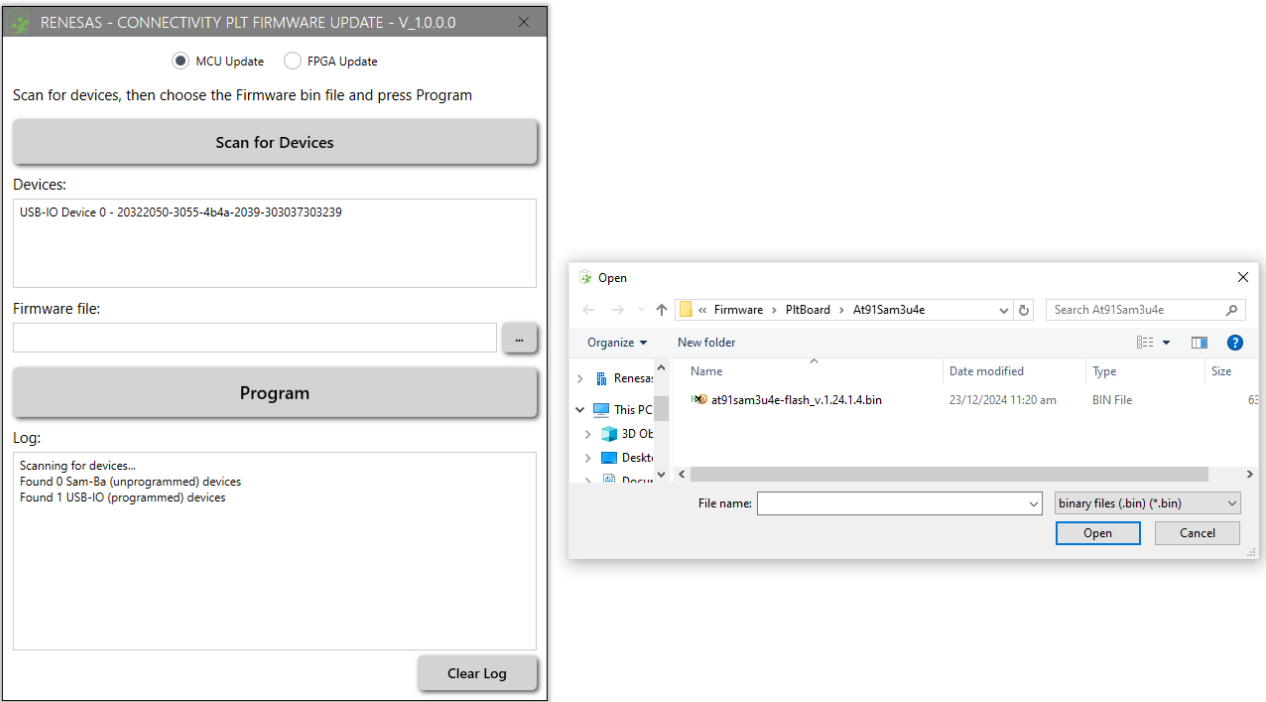

Figure 152. Firmware update file browse
3. Next specify the **Firmware file**, click the browse button (three dots), and select the appropriate file to flash, see Figure 152.